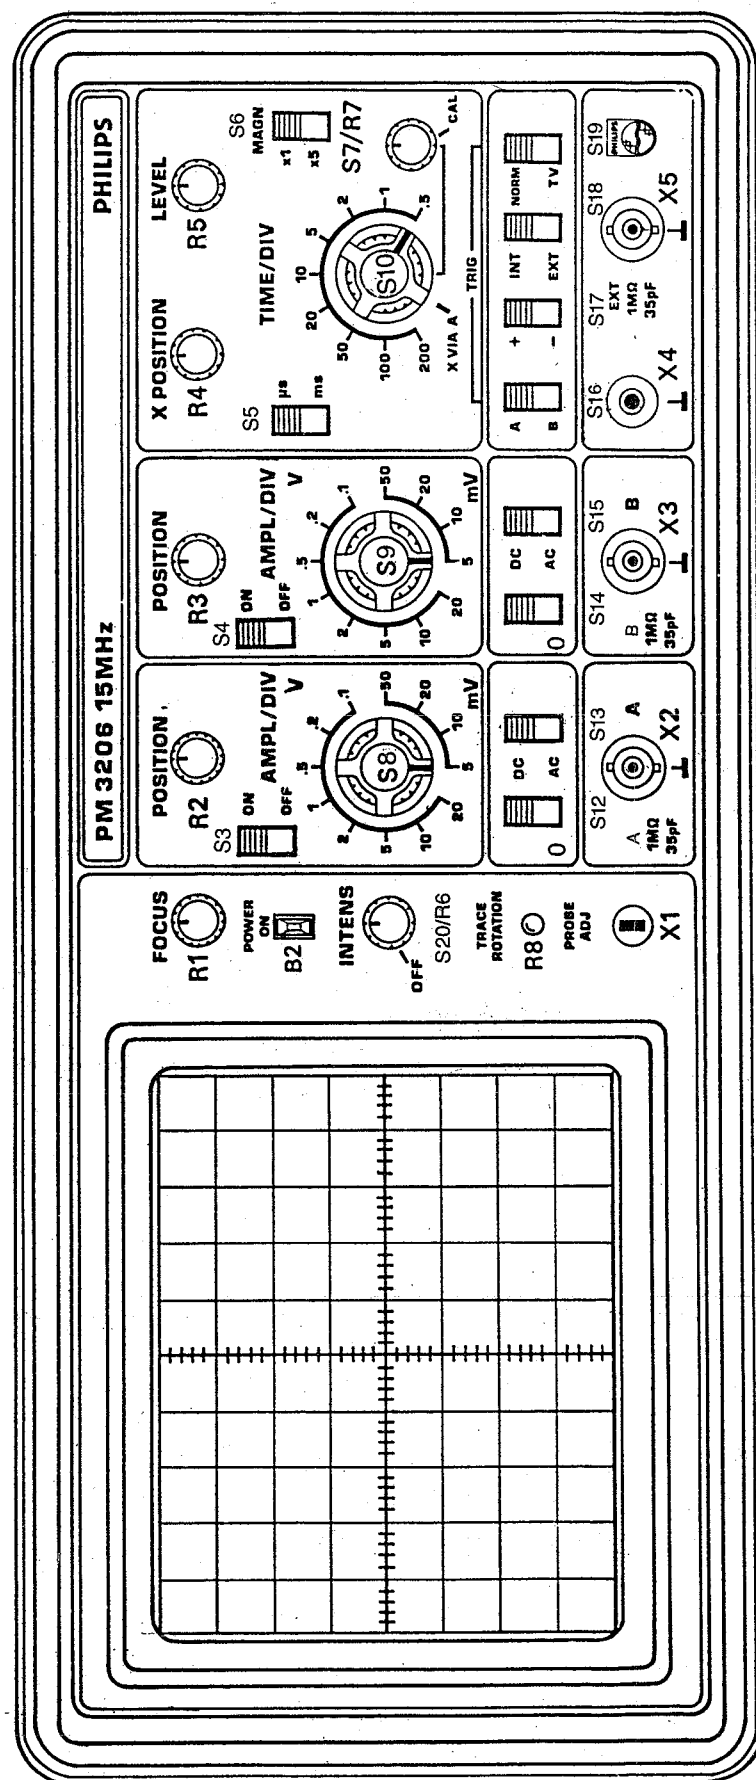

Fig. 4.1 Preliminary Settings of the controls
- Set the controls as indicated in Fig. 4.1.